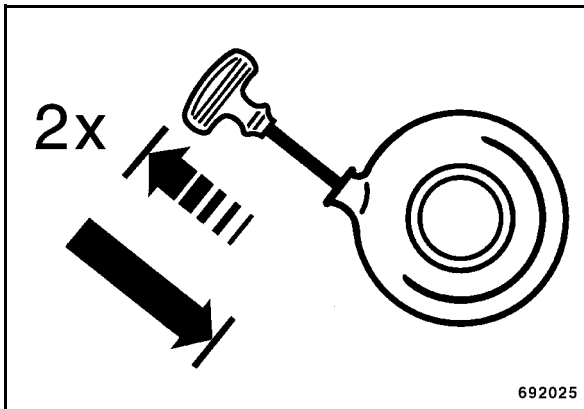

Fig. 23
- Slightly pull the starter handle (Fig. 23) two times, until resistance can be felt (compression pressure), and return it to initial position.